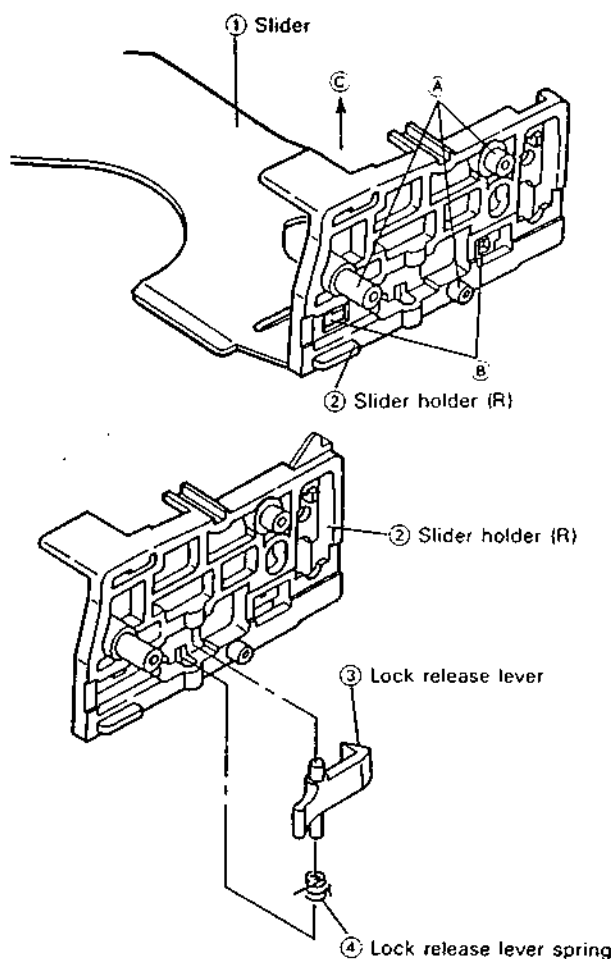

Figure 1-7.
• Removal (Fig. 1-7)
1. Turn the coupling clockwise until the slider (1) comes to the cassette down position.
2. Slightly widen the cassette housing frames (R) and (L) to unhook the parts (A) of the slider holders (R) and (L) off the grooves of the above frames.
3. Press the catch (B) on the slider holder (R) (2), and let the slider (1) go off this holder in the direction of arrow (C).
4. Take the lock release lever (3) out of the slider holder (R) (2).
• Reassembly (Fig. 1-7)
1. Attach the lock release lever ③ to the slider holder (R) ②.
2. Fit the slider holder (R) ② to the slider ①.
3. Slightly widen the cassette housing frames (R) and (L), and set the parts ④ of the slider holders (R) and (L) to the grooves of the cassette housing frames (R) and (L).